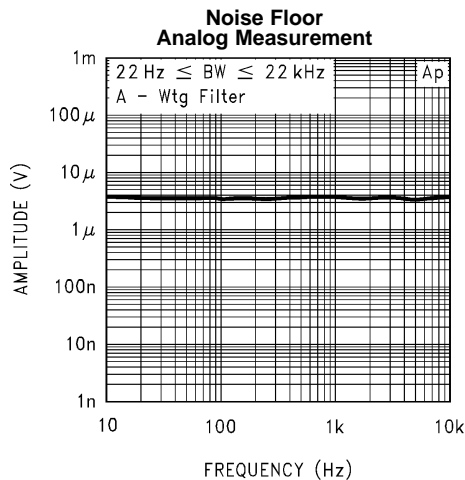
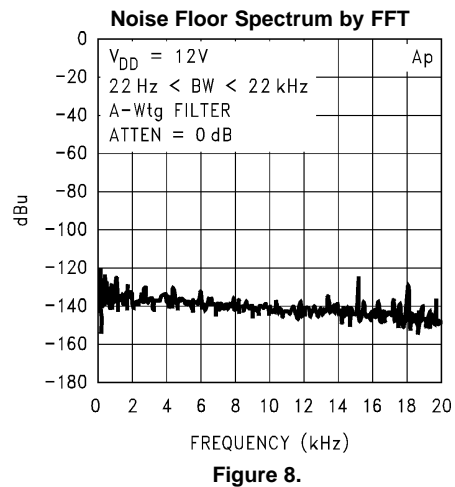

Figure 5.
Figure 8.
- (1) Absolute Maximum Ratings indicate limits beyond which damage to the device may occur. Operating Ratings indicate conditions for which the device is functional, but do not specify specific performance limits. Electrical Characteristics state DC and AC electrical specifications under particular test conditions which ensure specific performance limits. This assumes that the device is within the Operating Ratings. Specifications are not ensured for parameters where no limit is given, however, the typical value is a good indication of device performance.
- (2) All voltages are measured with respect to the GND pin (pin 3), unless otherwise specified.
- (3) Typicals are measured at  $25^\circ C$  and represent the parametric norm.
- (4) Limits are specifications that all parts are tested in production to meet the stated values.
- (5) Due to production test limitations, there is no limit for the Noise test. Please refer to Figure 5 and Figure 8 in Typical Performance Characteristics.